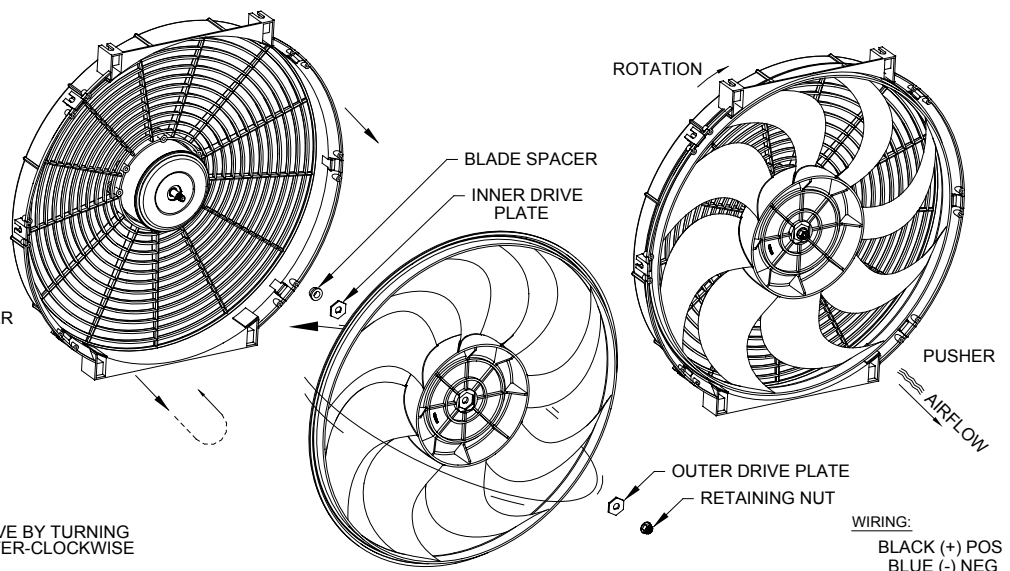

FIGURE 4
2. Carefully pull the blade off the motor shaft. Caution - edges of blade are sharp. Do not try to drive the motor out by impact! This will destroy the motor and void the warranty. Flip the blade, then place back on the unit by lining up the hub center with the motor shaft. Blade will rest on spacers as shown in **Figure 4**. Be very carefull not to loose any of the spacers.